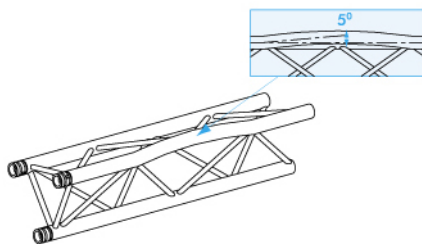

Figure 16 Bending of the main chords
2. Any of the chords being bent out off the center-line by more than 5°. (See fig 16).